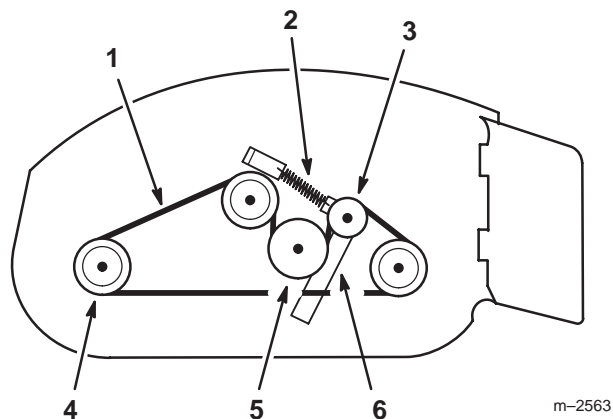

Figure 28
4. Install the new deck belt around the three spindle pulleys, gearbox output pulley and deck idler pulley (Fig. 28).
5. Reconnect the deck idler arm spring (Fig. 28).